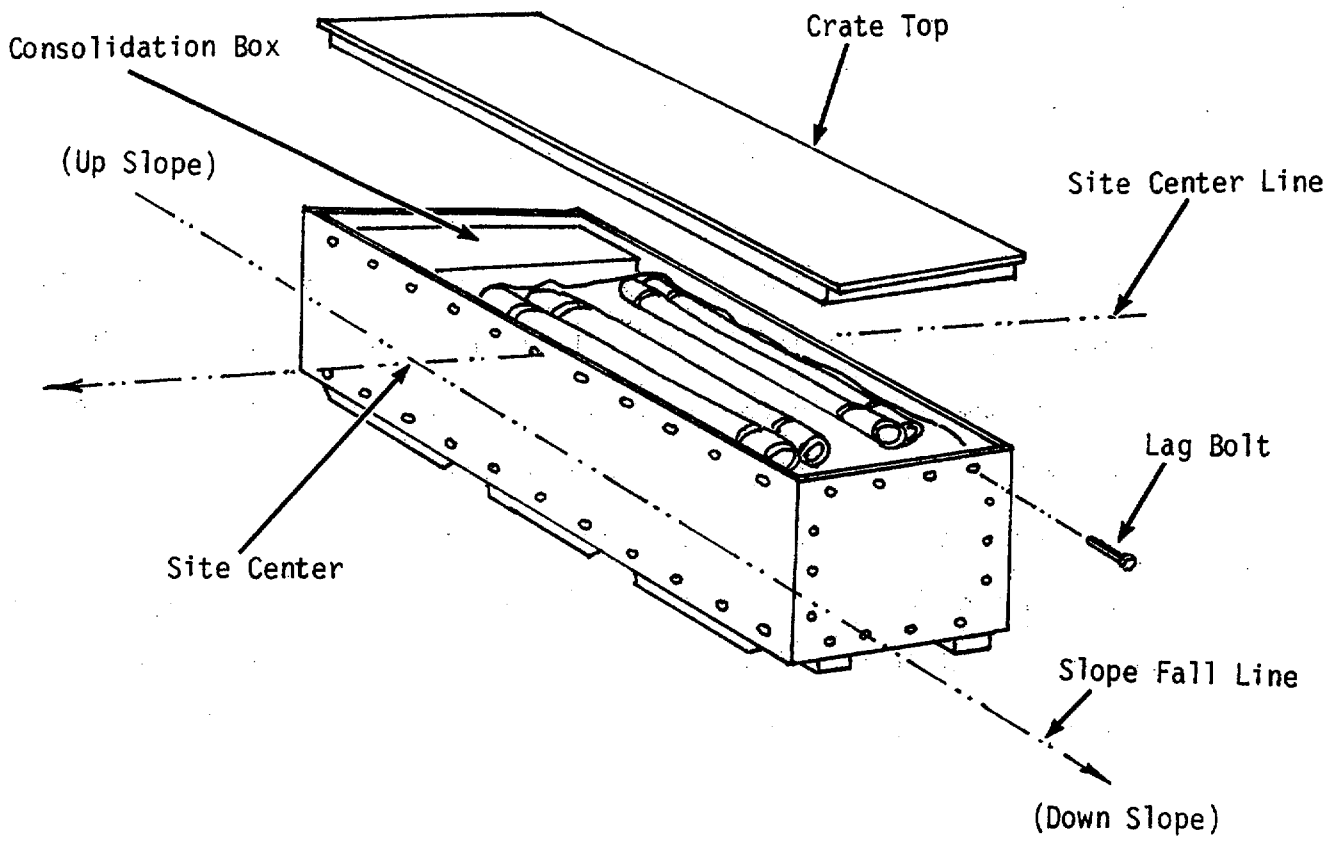

Figure 2-1. Removing Lag Bolts from Crate
- 2-2. **DEPLOYMENT.** Place the crate containing the tank in the middle of the prepared site. Place the end of the crate marked "Consolidation Box" in the center of the deployment site. If the site has any slope, the length of the crate must be parallel to the slope fall line. (See Figure 2-1).